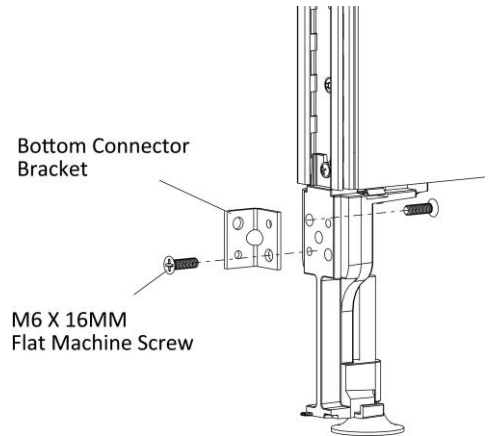

Figure 5
8. Securely fasten the bottom corner bracket to the panel leg with two M6 X 16MM Flat Machine Screws, (Figure 5).